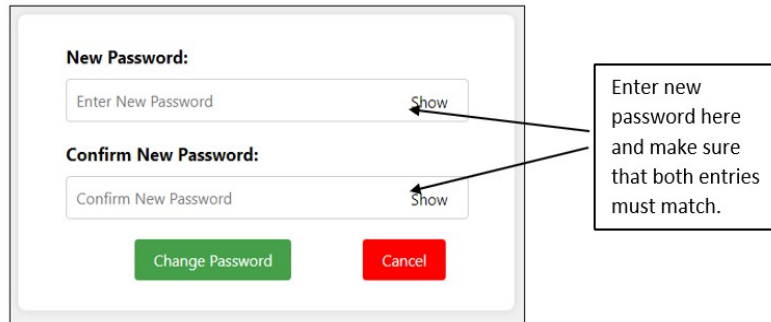

Figure 41: Change Password Page
1. **Navigate to Page:** Navigate to the "Change Password" page from the navigation menu. The page will open as shown in Fig 41.